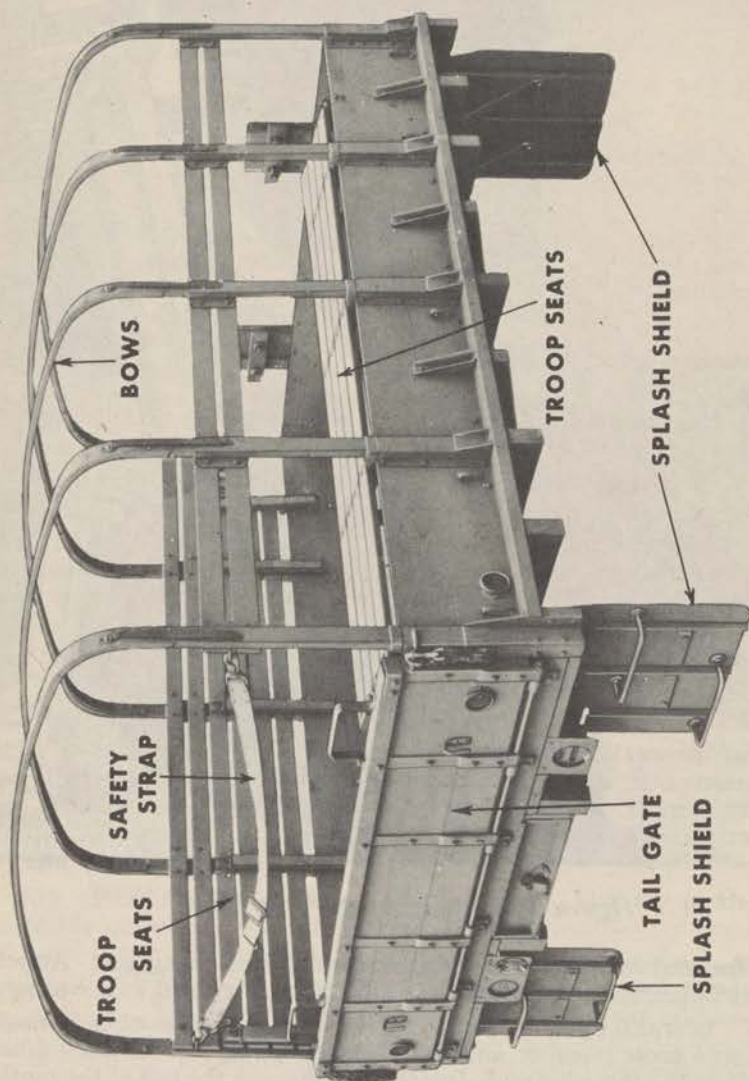

Figure 164—Cargo Body
a. **Description** (fig. 164). The cargo body is made up of wooden sections and timbers bolted together. It is equipped with bows and tarpaulin, troop seats, a conventional type tail gate, and two tire mounting brackets, which make it possible to mount the two spare tires inside the body at the forward end.
(5) **INSTALL TOP BOWS.** Lift the top bows into position over the pockets in the side assemblies and lower them into position, seating them solidly in the side assembly pockets (fig. 164).